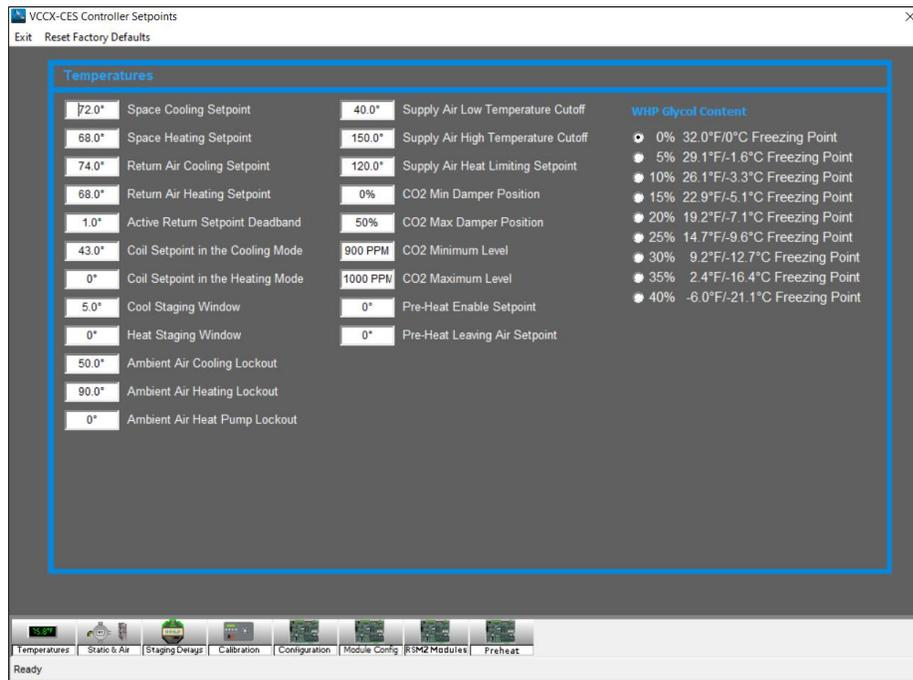

Figure 40: VCCX-CES Controller Setpoints Screen
3. Setpoint tab should pop up another window. It will display the following VCCX-CES Controller Setpoints (see figure 40).